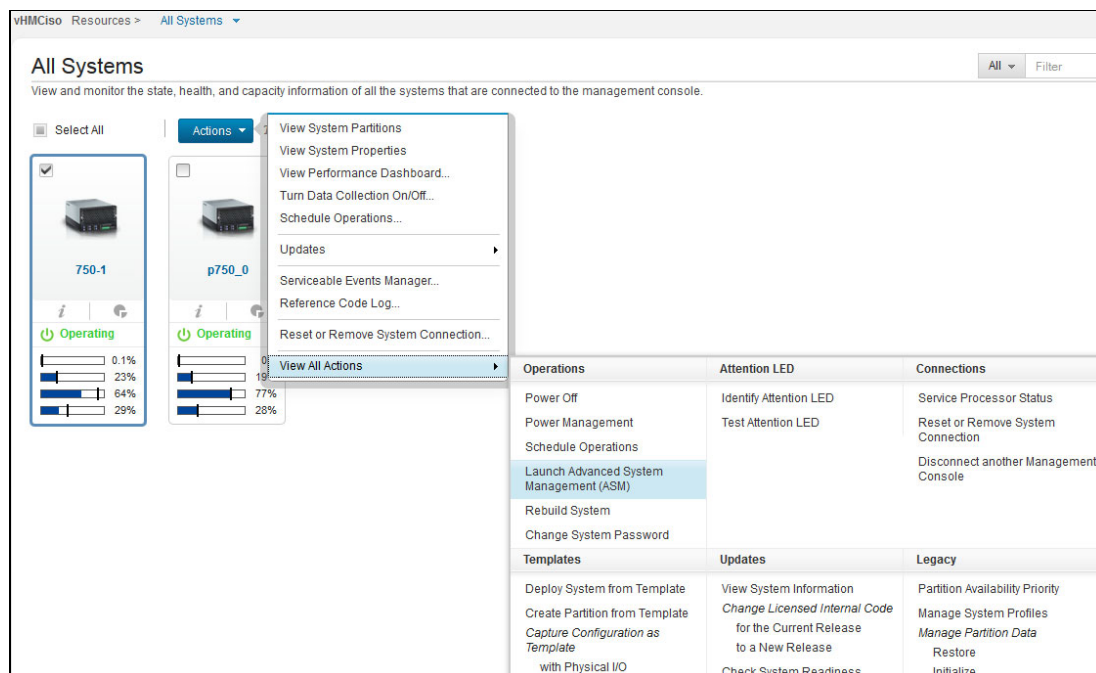

Figure 6-38 Launch ASMI from HMC
- From the lower panel of the HMC menu, select **Actions** → **View All Actions** → **Launch Advanced System Management (ASM)** as shown in Figure 6-38.